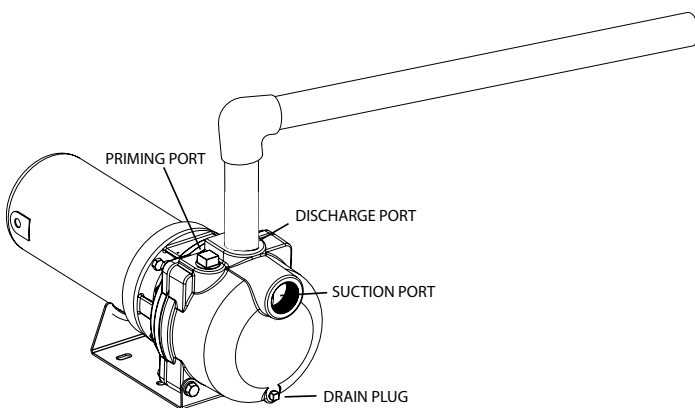

Figure 6
B. Discharge Port Connections (Figure 6)